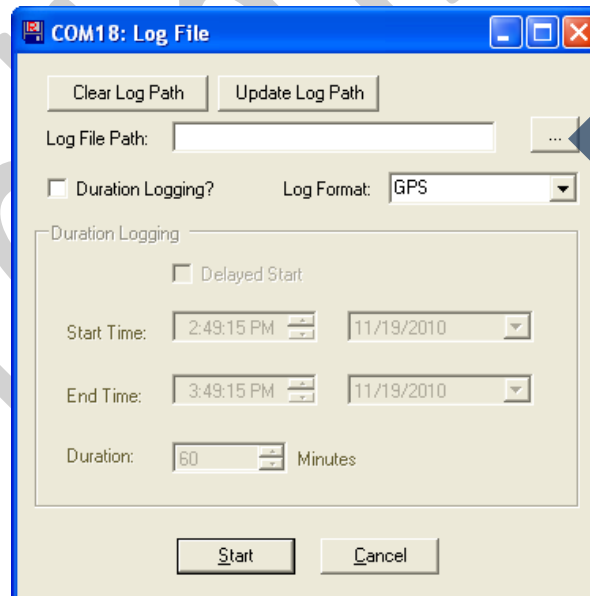

Fig 19: Clicking on the “. . .” button will give the user the control of the output folder and output name
2. The *Log File* window should open, which is shown in Fig 19. Click on the “. . .” button, as indicated by the arrow in Fig 19, to open a window where the user can specify the output folder and the output file name.